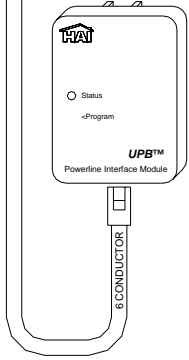

FIGURE 1 - CONTROLLER HOOKUP
5. Refer to **FIGURE 1 (CONTROLLER HOOKUP)** for this configuration.